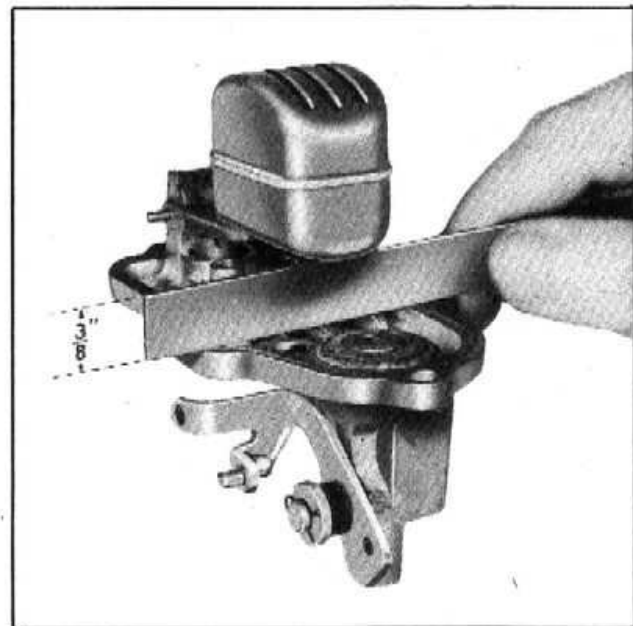

Fig. 8—Checking Float Level
underside of the bowl cover (with the gasket removed) to the top of the float. This measurement should be $\frac{3}{8}$ ". The gauge shown in Fig. 8 is a convenient tool for making this check.
9. With the cover turned upside down, check the float level by measuring from the cover to the float. This distance should be $\frac{3}{8}$ ". See Fig. 8.